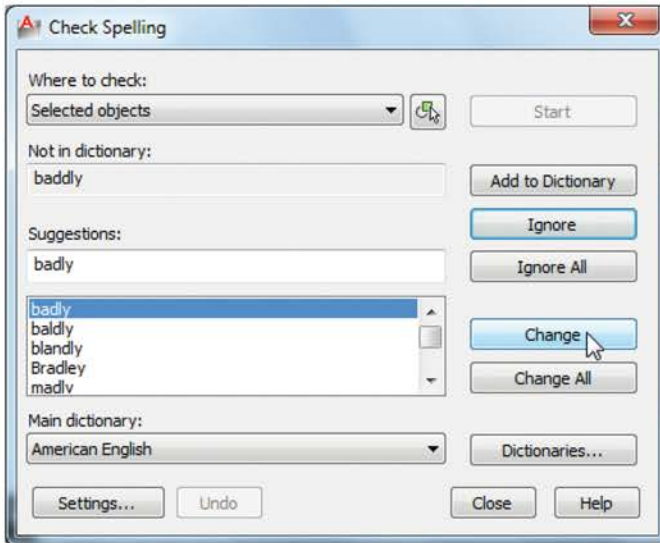

Fig. 12.29 Second example – the Check Spelling dialog
SECOND EXAMPLE – THE SPELLING TOOL (FIG. 12.29)
1. *Enter* some badly spelt text as indicated in Fig. 12.29.
3. The **Check Spelling** dialog appears (Fig. 12.29). In the **Where to look** field, select **Entire drawing** from the field's popup list. The first badly spelt word is highlighted with words to replace